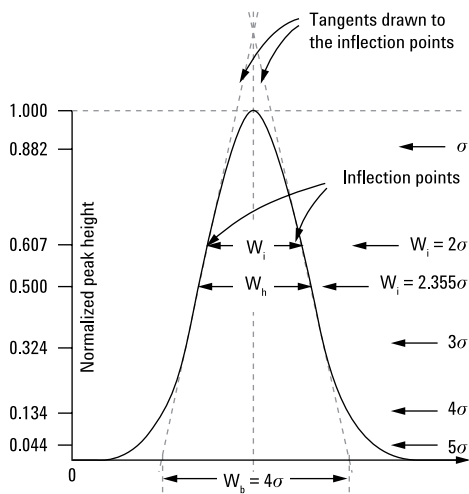

Figure 63. Widths of a Gaussian peak at various heights as a function of the standard deviation (σ) of the peak. (Modified with permission from reference 2).
would be eluted as a narrow slug of pure compound if not for the process of band broadening. The measure of band broadening is bandwidth (t_w) or, more correctly, the number of theoretical plates (N) in the column. Sometimes called band dispersion or band spreading. See Figure 63.
Bandwidth (t_w): The width of the chromatographic band during elution from the column. It usually is measured at the baseline by drawing tangents to the inflection points on the sides of the Gaussian curve that represents the peak. Small bandwidths usually represent efficient separations; also called peak width. See Figure 63.